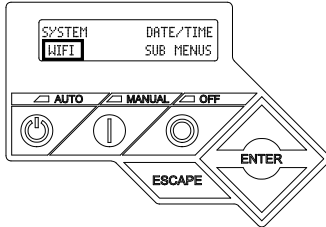

Figure 3-29. Select Wi-Fi Menu
1. See Figure 3-29. From the main controller display, navigate to the Wi-Fi menu and press ENTER.